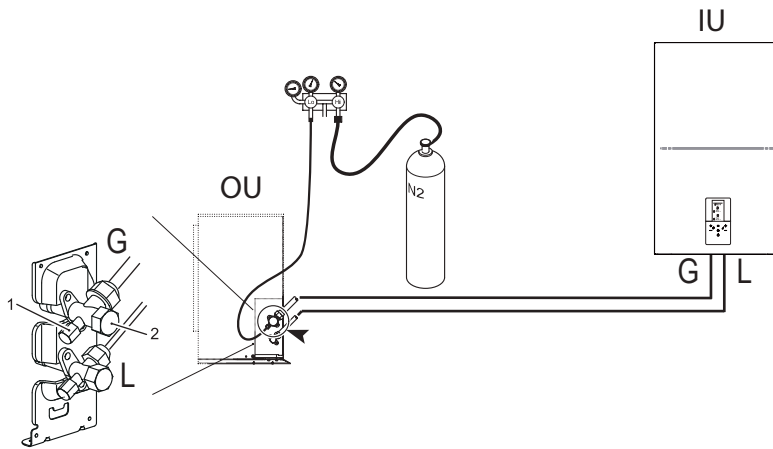

fig. 12 - Airtight test and leakage detection
- With the service valves of the outdoor unit completely shut, remove the cap from the service tap (part 1 - fig. 12) and the union (part 2 - fig. 12) of the gas valve (the larger one)